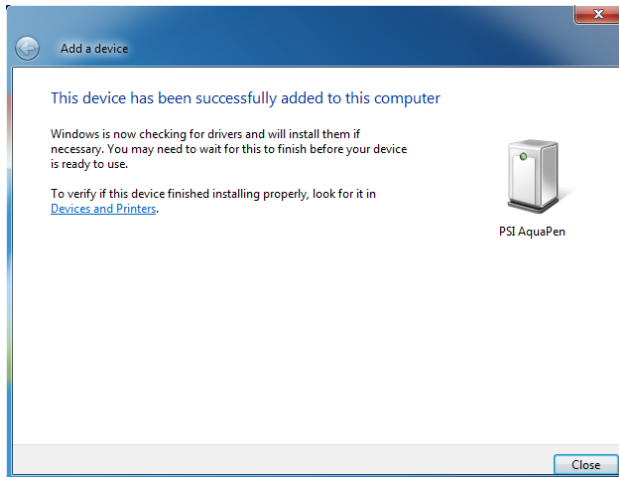

Fig. 13 Bluetooth – pairing completion.
- Click: Close (Fig. 13) to finish the Bluetooth pairing process.